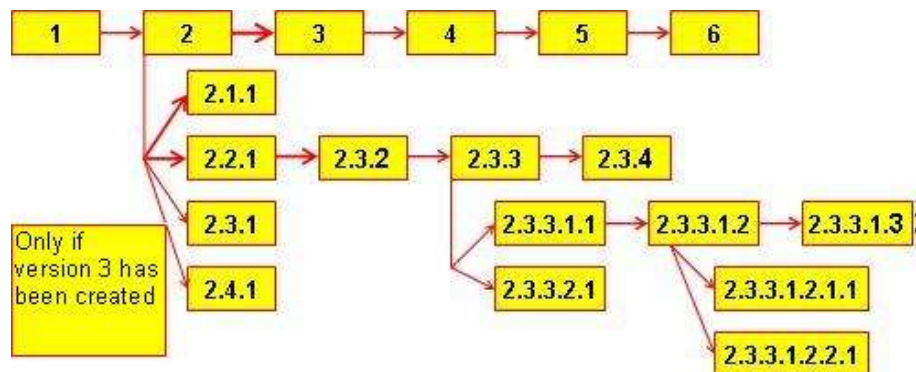

Figure 227: History of Automatically assigned Version Numbers
- The **Subassembly 1 Version: 1** list appears. This dialog lists all existing versions for this object (*Please refer to the Figure 227*).